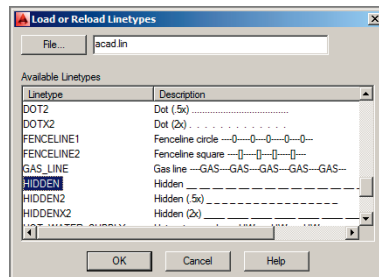

FIGURE 6.20 Loading the Hidden linetype
2. In the Linetype Manager dialog box that appears, click the Load button. Scroll down in the Load Or Reload Linetypes dialog box that appears, and select `Hidden` in the list (see Figure 6.20); then click `OK`. `Hidden` now appears in the Linetype Manager dialog box because this particular linetype style has been loaded in the drawing file; click `OK` to close the Linetype Manager dialog box.